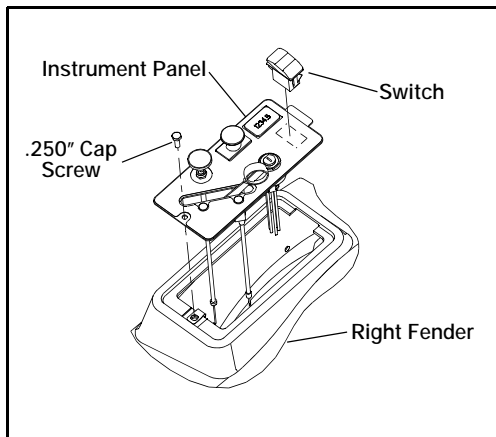

FIG. 1
3. Remove the .250" cap screw from the instrument panel. Lift and slide the panel forward away from the fender. Disconnect the ignition switch. (FIG. 1)
4. Locate the rectangular opening to the rear of the ignition switch in the instrument panel. Using the panel as a guide, cut a rectangular hole in the instrument panel decal for the switch. (FIG. 1)